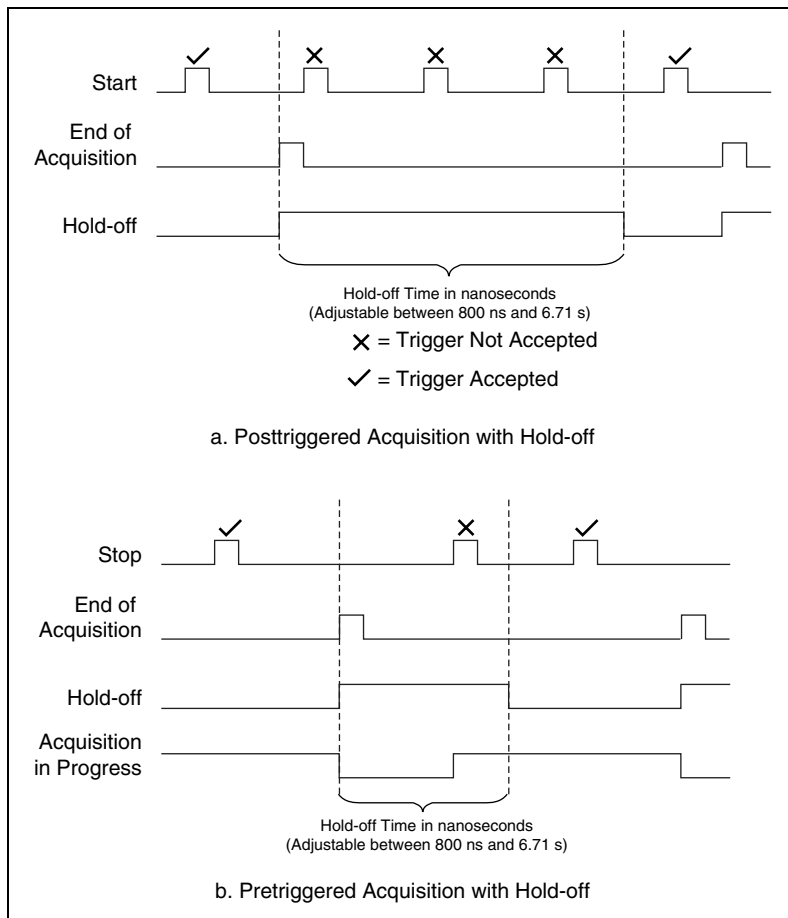

Figure 4-11. Pretrigger and Posttrigger Acquisitions with Hold-off
When an acquisition is in progress, the counter is loaded with a digital value that corresponds to the desired hold-off time. The End of Acquisition signal triggers the counter to start counting down. Before the counter reaches its terminal count (TC), all triggers are rejected in hardware. At TC, the hold-off counter reloads the hold-off value and prepares to accept the next trigger. Figure 4-11 shows a timing diagram of signals when hold-off is enabled.